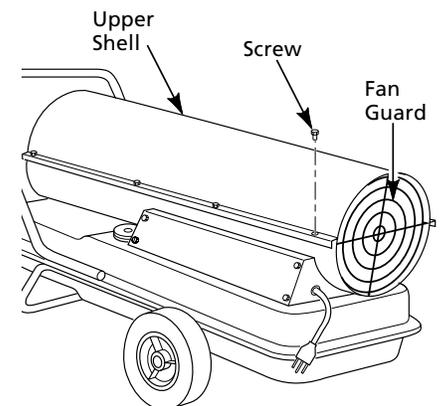
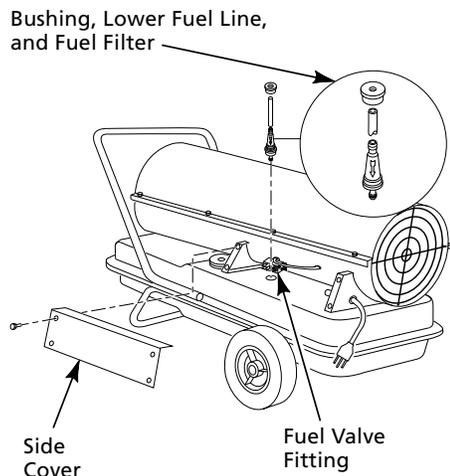

Figure 5 - Upper Shell Removal
Figure 10 - Fuel Filter Removal
- Remove screws along each side and top of heater using 5/16" nut-driver. These screws attach upper and lower shells together (See Figure 5).
- Remove upper shell (See Figure 5).
1. Remove upper shell (See Figure 5, page 5).
2. Remove side cover (See Figure 10, page 7).
1. Remove side cover (See Figure 10), fan guard, and upper shell (See Figure 5, page 5) screws using 5/16" nut-driver.
1. Remove upper shell and fan guard (See Figure 5, page 5).
3. Remove 4 side cover screws with a 5/16" nut driver. Remove side cover (See Figure 10).
12. Replace side cover (See Figure 10).